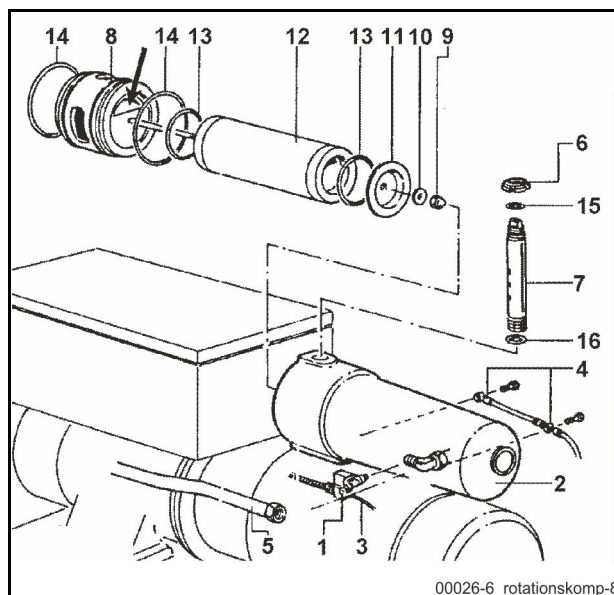

Fig. 367 Oil separator cartridge
- Disconnect the plug for the solenoid valve **(1)** on the separator housing **(2)** (**Fig. 367**) and loosen the air hose **(3)**.